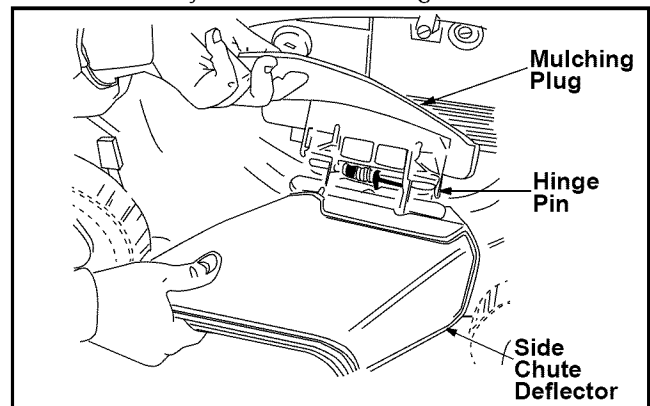

Figure 9
- Your mower has been shipped as a mulcher. To convert it to a side-discharge mower, lift the mulching plug. Slide the two hooks on the side-discharge deflector under the hinge pin on the mulching plug assembly. Lower the mulching plug. See Figure 9 .